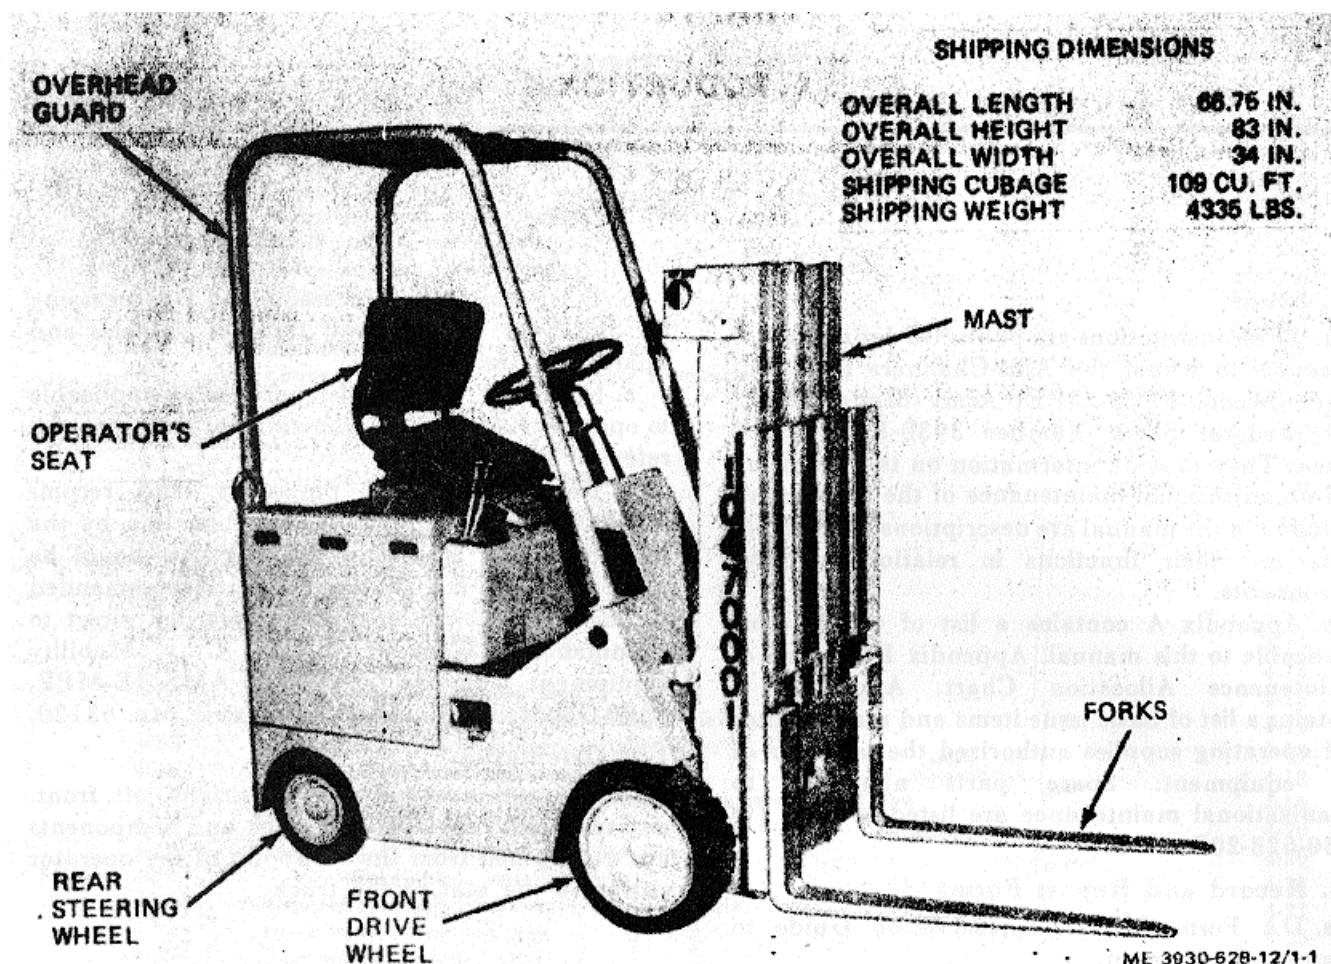

Figure 1-1. Fork lift truck with shipping dimensions, right side view.
a. The Army Model MHE-219 (Allis-Charmers Model FE20-24EE) is a nontactical fork' lift truck (figs 1-1 and 1-2) designed for warehouse